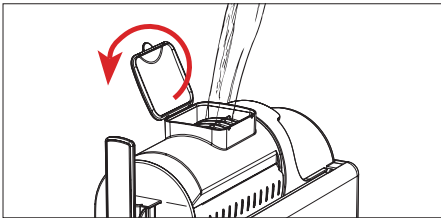

Figure 1
- ① Place the machine upright on a flat, level surface, with a clearance of at least 8 centimeters reserved on the sides and back.
- ② Before first use, lift the main unit and insert the drip tray.
- ③ Rinse the slush bucket assembly, mixing blades, dew collection box and drip tray assembly with clean water. (For detailed disassembly and cleaning instructions, refer to 1) Main Components and Slush Bucket Assembly Disassembly and 2) Deep Cleaning in 05 Disassembly and Troubleshooting.)
- ④ Ensure that the locking fastener is in the locked position.
- ① Open the slush bucket cover, then slowly pour the ingredients into the slush bucket (see Figure 1), and close the slush bucket cover. The liquid volume shall be kept between the 【MIN】 minimum liquid level and 【MAX】 maximum liquid level (see Figure 2).